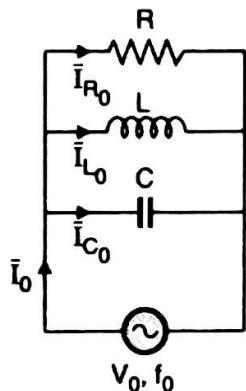

Fig. Q. 2.20
**Q. 42** What is the condition for resonance for the following circuit ? (Refer Fig. Q. 2.20)